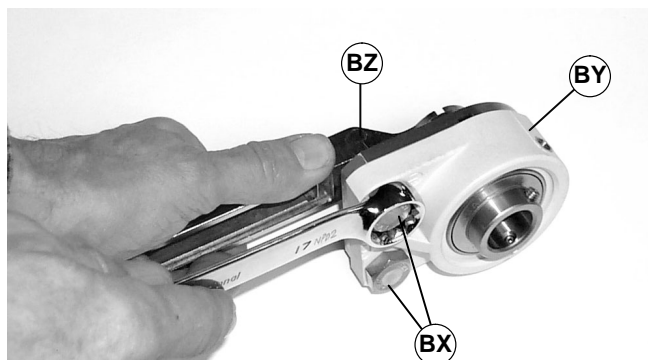

Figure 45
1. Using a 17 mm wrench, remove two hex head screws (BX of Figure 45) from bearing (BY) and head plate (BZ).
1. Install bearing (BY of Figure 45) on head plate (BZ) with two hex head screws (BX). Tighten screws to 36 ft-lb (49 Nm).